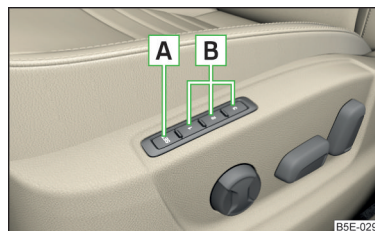

Fig. 69
The memory function for the driver's seat provides the option to store the positions of the driver's seat and the external mirrors. Each of the three memory buttons **B** » Fig. 69 can be assigned a set position.
- Press the button **SET** **A** » Fig. 69.
- › Press the required memory button **B** » Fig. 69.
- › Tap the desired memory button **B** » Fig. 69 when the ignition is switched off and the driver's door is opened.
- › Press and hold any memory button **B** » Fig. 69 on page 87. After the seat has assumed the position stored under this button, at the same time press the button **⏏** on the remote control key within 10 seconds.
- › Press and hold the **SET** button **A** » Fig. 69 on page 87. At the same time, press the button **⏏** on the remote control key within 10 seconds. ►